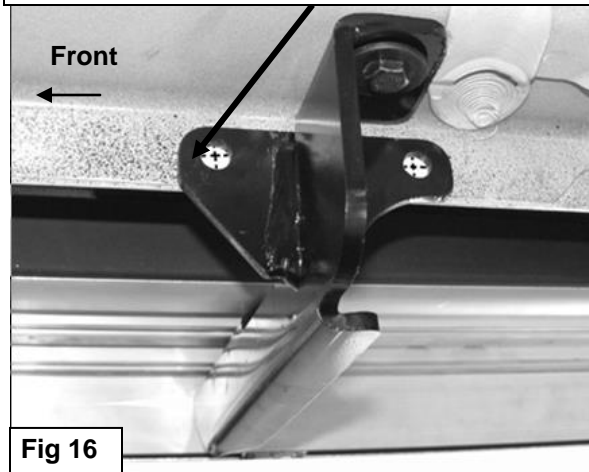

Fig 16
10. Mark the front, center and rear Support Bracket slot locations onto the back of the pinch weld, **(Figure 16)**. Temporarily remove the Running Board and Brackets. Remove the screws attaching the plastic rocker cover to the bottom of the body, **(Figure 11)**.